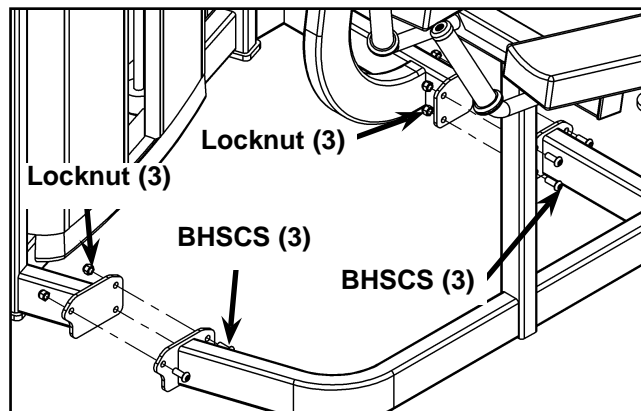

Figure 1
- B. With an assistant, carefully remove the six Button Head Socket Cap Screws (BHSCS) securing the two halves of the frame. See Figure 1.
- D. With an assistant, carefully attach each half together using the six BHSCS removed in step 4B. See Figure 1.